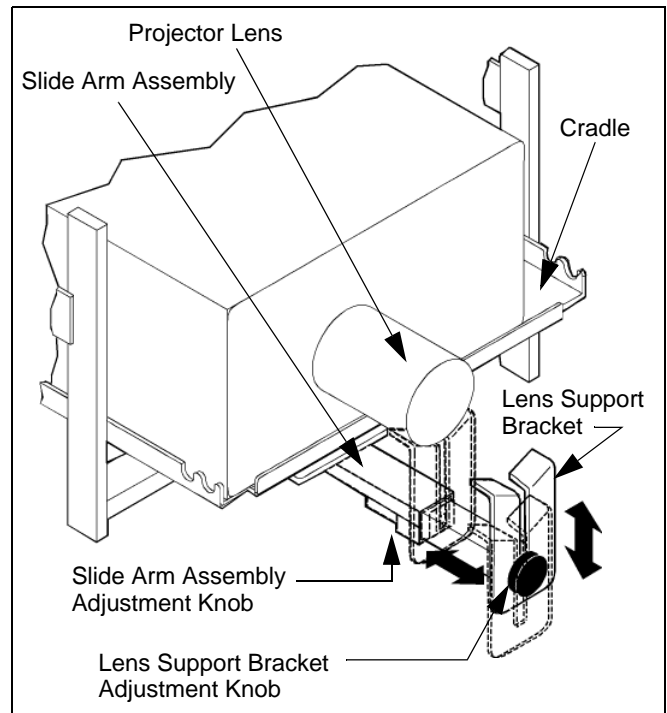

Figure 3: Lens Support Bracket Adjustment
2. Position Lens Support Bracket under Projector Lens by loosening Slide Arm Adjustment Knob (located underneath Slide Arm Assembly) and sliding Slide Arm Assembly towards or away from projector until properly positioned. (see Figure 3:)